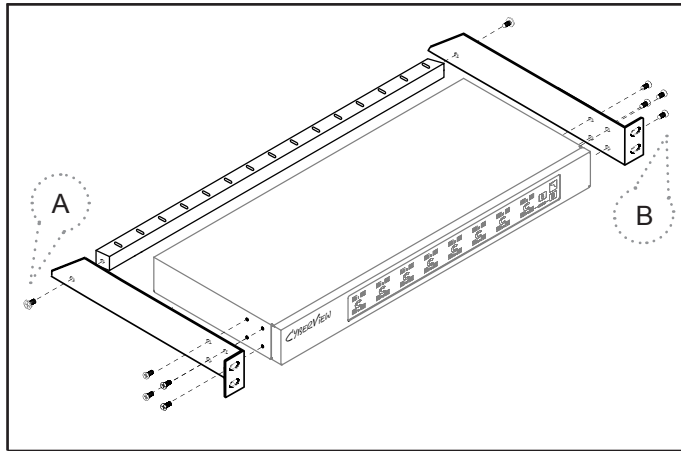

Figure 1. Installing the rear L-bracket to the Cat5 IP serial console.
- Install each bracket using screws provided shown in **Figure 1**.